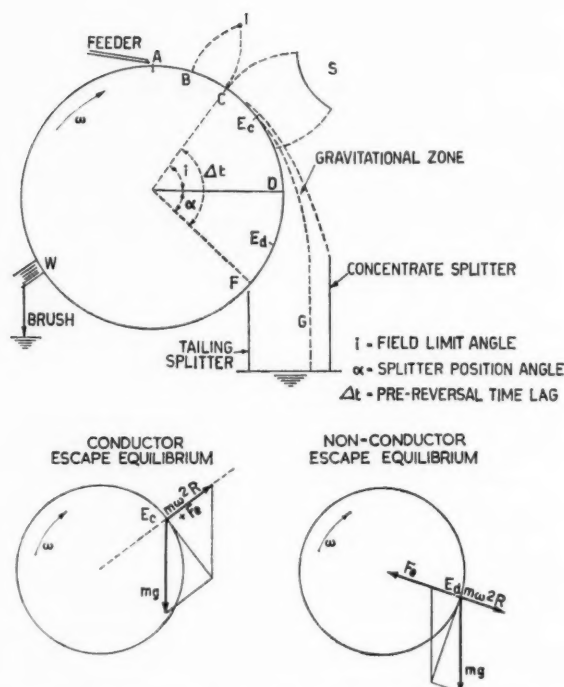
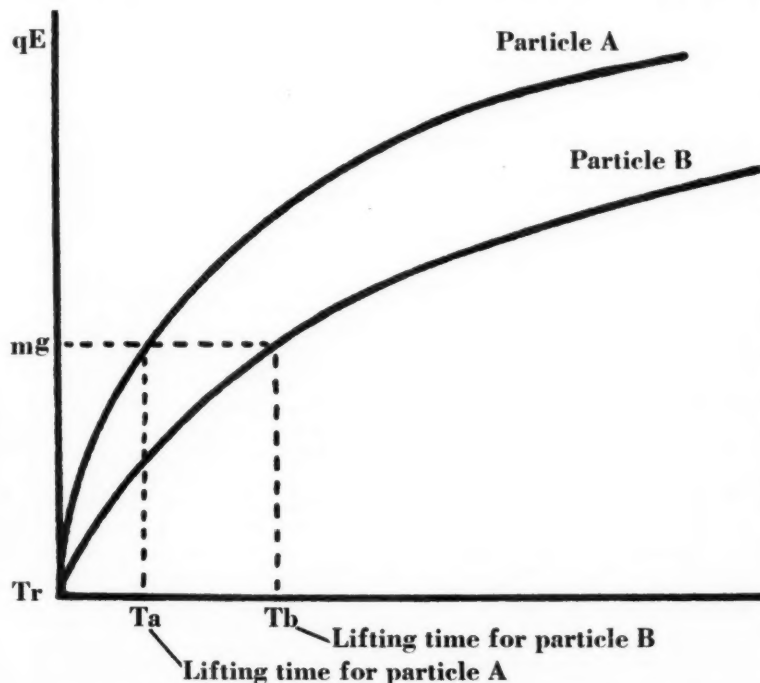

Fig. 5. Schematic Lurgi-type separator and particle escape equilibrium
Fig. 6. Evaluation of the electric force acting on a conductor in the static field
This brings us to the important concept of charge reversal (figure 6) for a conductor particle traveling in a combined system of ionic and static fields. The calculation of the time T_r at which this reversal of the charge will occur can then be made by re-
For our expose, we will take a machine of the Lurgi type which uses distinctly separated electrodes for ionic and static field production. This machine, schematically shown in figure 5, consists essentially of a rotating drum or rotor on which the finely crushed ore to be separated is fed at a constant rate. The rotor, which is grounded, rotates at a pre-determined constant speed, while in front of it are located, in prescribed positions, an ionic electrode or ionizer (I), source of the corona field, and a rounded or deviation electrode (S), source of the static field.
Let us now analyze what happens when the machine operates. With regular rotor operating speeds, the centrifugal force acting on a mineral particle may be from six to ten times the force of gravity. Consequently, were there no electrical field between electrodes and rotor, the sheet of ore would find a trajectory leaving the rotor from the top and spreading inside a "gravitational zone" (see figure 5) as the result of air resistance on the differently sized particles. If the feed was air-classified, this sheet of ore would be thinly spread.
In the case of figure 5, the concentrate splitter is set so as to just deflect the top layer of the ore stream in the gravitational zone, while the tailing splitter is set so as to separate a tailing low enough in grade to allow a satisfactory metallurgical recovery. Under these conditions of rotor speed and splitter positions, when the machine is operating normally under electrical tension to effect a separation, we will recover particles of conductor minerals to the right of the concentrate splitter. To the left of the tailing splitter, most of the non-con-
As we have seen, the last conductors which fail to be rejected to the tailings have escaped at point F in figure 5 at a time when the electrical force (resulting from their ionic charging) is still many times larger than their gravity (see figure 6).